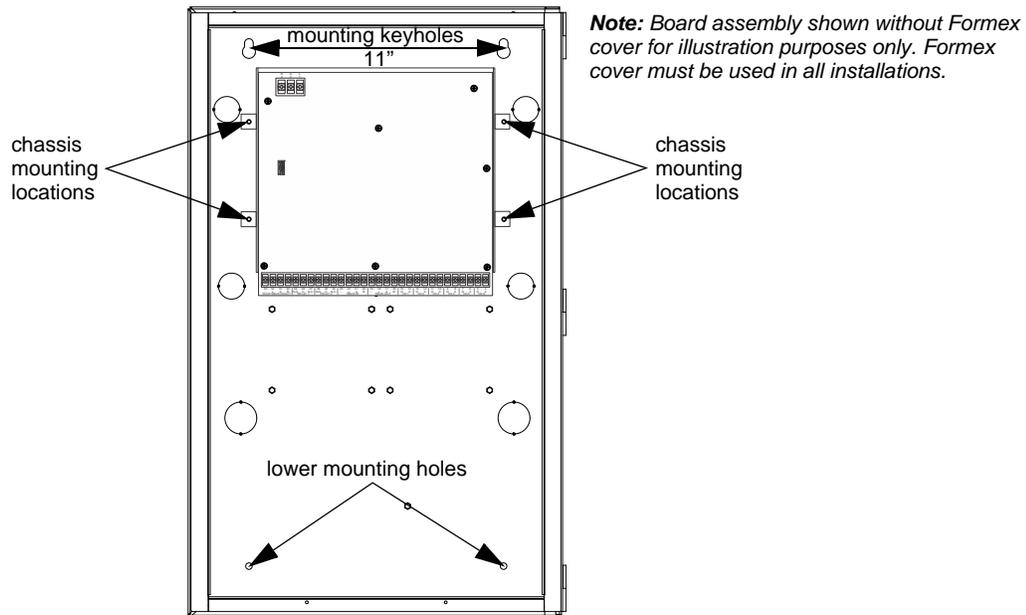

Figure 3.1 5895XL Cabinet Mounting
2. Remove the four nuts which secure the chassis to the cabinet. Refer to Figure 3.1 for mounting locations.